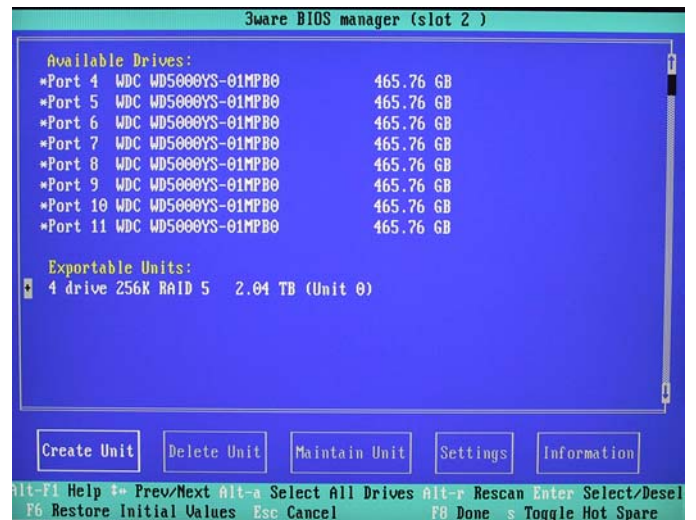
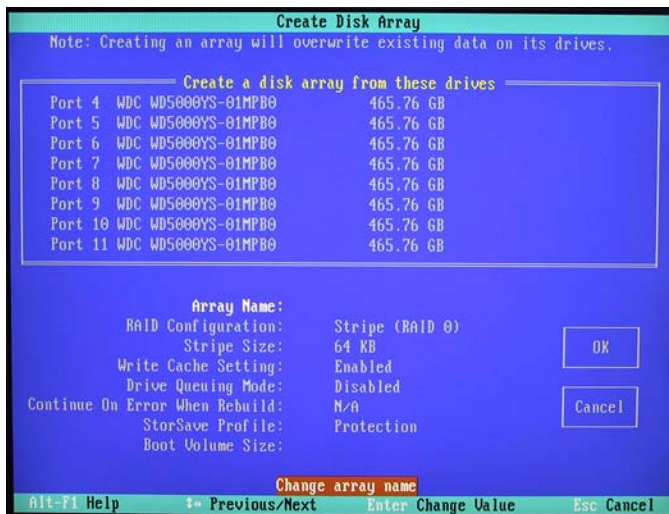

Figure 6-8
Figure 6-9
- 8) Observe that eight drives are now shown as being available for the creation of an array. Use <Alt-A> to select all of the drives; observe that asterisk (*) characters appear to the left of each drive's port number to indicate that the drive has indeed been selected (Figure 6-8).
- 9) Ensure that the **Create Unit** item is selected (the white box shown to the bottom left of the screen in Figure 6-8), and then press the <Enter> key to invoke the **Create Disk Array** screen (Figure 6-9)